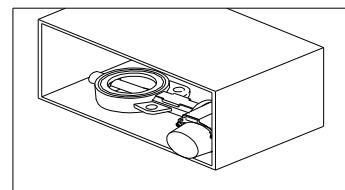

Fig 2.1 Storing the Valve.
4.1 Valves are being packed in cartons, boxes or pallets while shipping to the customer. Care should be taken to store them in a suitable place. We recommend storing the valves indoors in a dry and dust free atmosphere (Refer to figure 2.1). While unpacking the valves, check that the valves and any other accessories have not been damaged during transportation. Avoid mechanical damage to the valve seat during storage. Rubber lined valve must not be stored for more than 2 years without installation, unless specified otherwise.